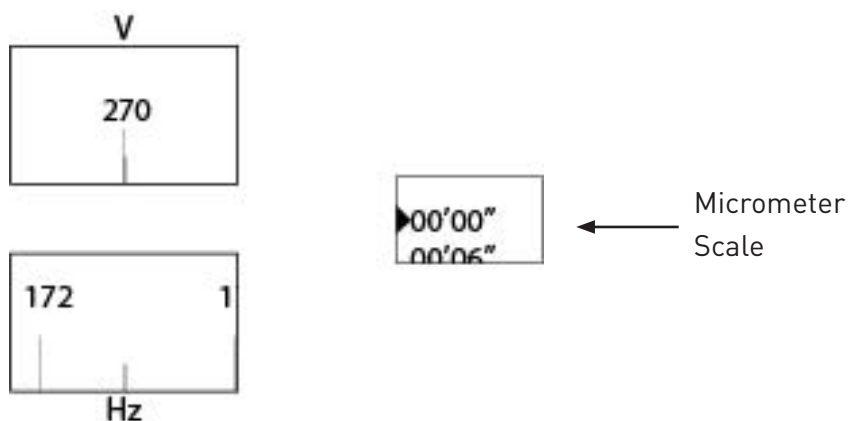

Figure 9. Magnetometer scale reading $00'00''$
2. Set the vertical circle to 90° or 270° as appropriate, ensuring the micrometer scale reads $00'00''$ (see Figure 9).. Perform the four null mode magnetometer observations and calculate the Magnetic Meridian mean value (MM).